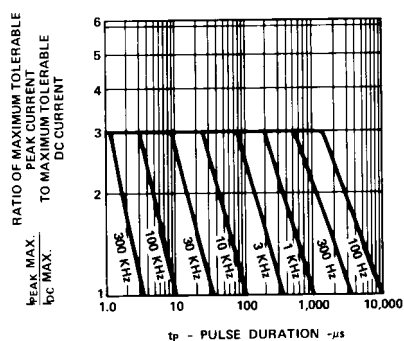

Figure 5. Maximum Tolerable Peak Current vs. Pulse Duration. (I_{DC} MAX as per MAX Ratings)
1. See Figure 5 (HER/Orange), 10 (Yellow), or 15 (Green/Emerald Green) to establish pulsed operating conditions.